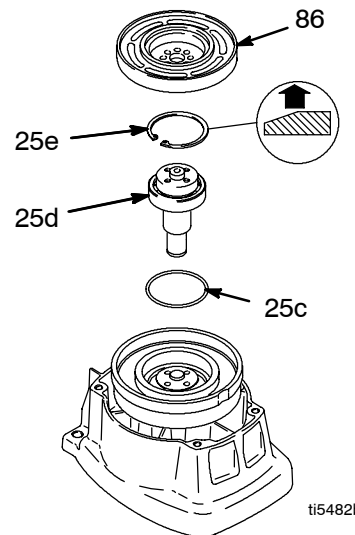

Fig. 6
7. Fig. 6. Remove retaining ring (25e).
6. Fig. 6. Check o-ring (25c) and replace if missing or damaged.